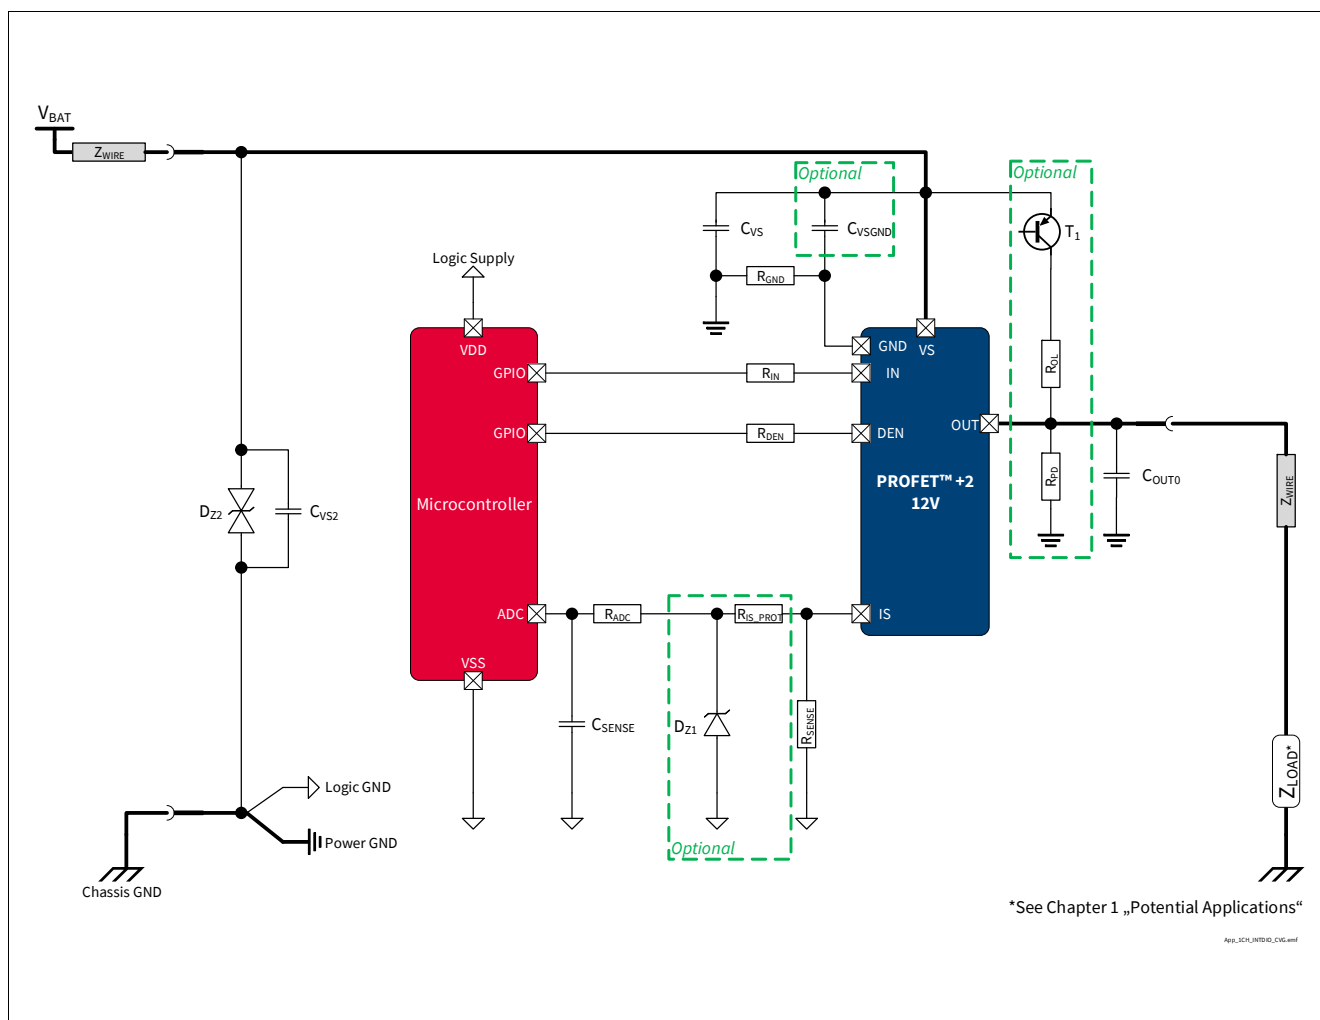

Figure 37 BTS7004-1EPZ Application Diagram
1.10 , 2020-12-14	Typo fixed (PROFET™+2 → PROFET™ +2) Figure 1, Figure 16, Figure 17, Figure 18, Figure 20, Figure 21, Figure 22, Figure 25, Figure 29, Figure 30, Figure 34, Figure 37 updated Chapter 1, Chapter 6.1, Chapter 6.1.3, Chapter 6.1.4, Chapter 8.2, Chapter 9.2.2 updated Chapter 8.4.1 updated (typo fixed) P_7.4.5.1, P_7.4.5.2, P_7.4.5.3, P_7.4.5.4, P_7.4.5.6, P_7.4.5.7 updated (added in Note or Test Condition: See Figure 15) P_8.6.4.1 updated (added in Note or Test Condition: See Figure 26) P_8.6.4.2 updated (added in Note or Test Condition: See Figure 27) P_9.6.0.6 updated (Parameter: SENSE Operative Range for k_{ILIS} Operation ($V_S - V_{IS}$) → Saturation Voltage in k_{ILIS} Operation ($V_S - V_{IS}$)) P_9.6.0.7 updated (Parameter: SENSE Operative Range for Open Load at OFF Diagnosis ($V_S - V_{IS}$) → Saturation Voltage in Open Load at OFF Diagnosis ($V_S - V_{IS}$)) P_9.6.0.8 updated (Parameter: SENSE Operative Range for Fault Diagnosis ($V_S - V_{IS}$) → Saturation Voltage in Fault Diagnosis ($V_S - V_{IS}$)) P_9.6.0.20 updated (Parameter: SENSE Operative Range for Fault Diagnosis ($V_S - V_{IS}$) → Saturation Voltage in Fault Diagnosis ($V_S - V_{IS}$))